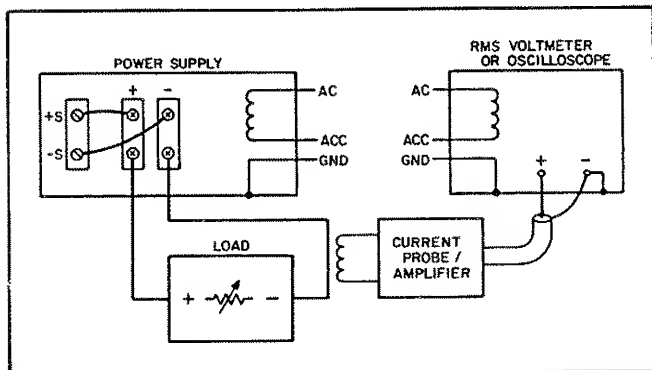

Figure 5-7. Constant-Current Ripple and Noise Measurement Test Setup
- a. Connect test setup shown in Figure 5-7.